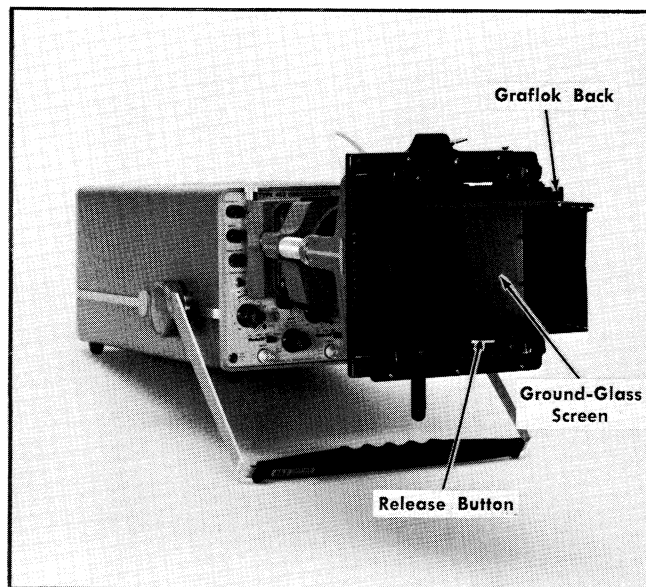

Fig. 2-5. The Graflok Back installed to permit focusing.
Install the Graflok back and press the release button on the back (see Fig. 2-5). Set the lens for maximum aperture ($f/1.3$, $f/1.9$, etc., depending on the lens) and set the SHUTTER SPEED selector on Time (T). Obtain a sharply focused trace on the CRT using the oscilloscope Focus and Astigmatism controls. Open the camera shutter and observe the image on the ground glass screen of the Graflok back.